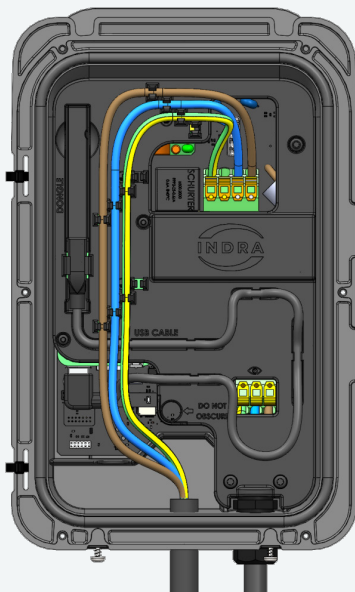

Figure 9: Smart LUX™ Dongle Routing
- Connect the USB cable supplied with the dongle into the Beaglebone and route as per Figure 9 or 10.